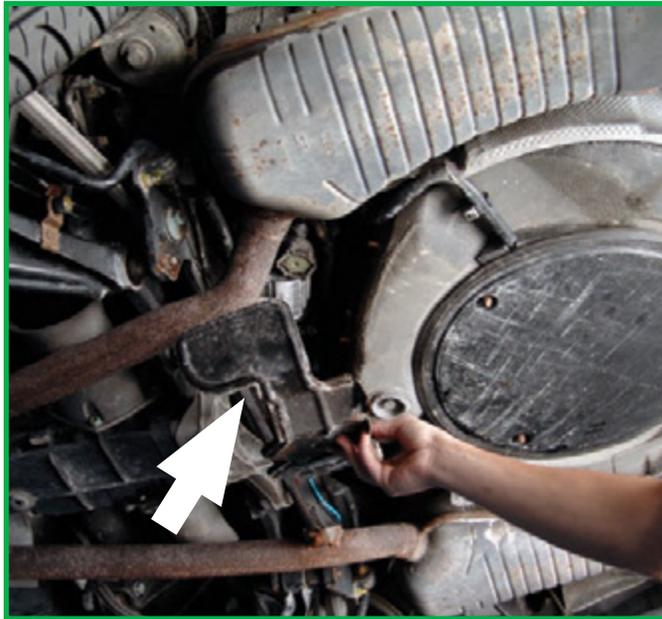

FIGURE 3
3. With the three (3) nuts removed, remove the cover to expose the compressor. (Figure 3)